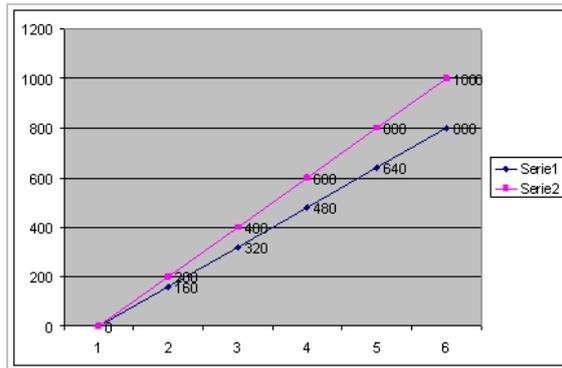

Figure 7 - Raw and calibrated lux values
Both raw values and the resulting calibrated values are shown in Figure 7. The pink line is the raw value (V) from the sensor, the blue line is the wanted value (W) set by the user. The calibration factor is: $C=1-(V-W/V)$
If the raw value $V=1000$, and the object is updated with 800, then the calibration factor will be: $c=1-(1000-800)/1000=0.8$. See the graph in Figure 7.